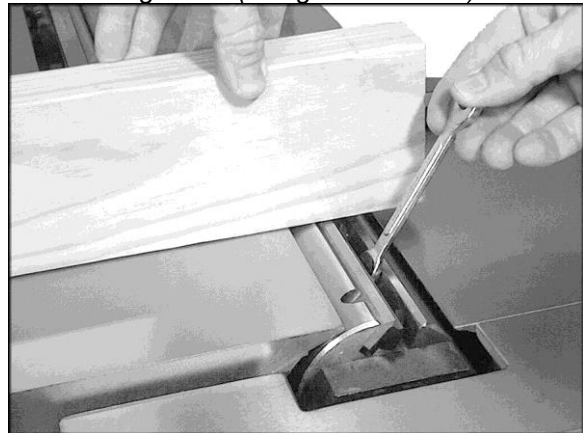

Figure 32 (straight cutterhead)
16. Use the edge of a board to push the knife back down so that it is flush against the jack screws. See Figure 32. Tighten the gib screws only enough to keep the knife in position in the cutterhead. Do not fully tighten.
20. After all three (3) knives are positioned properly in the cutterhead and made snug, continue tightening the gib screws. The gib screws should be tightened in increments, to prevent any distortion to the cutterhead or buckling of knives. Begin tightening the gib screws a little more on one knife. Start with the center screw and work your way to the ends. Do not fully tighten yet.